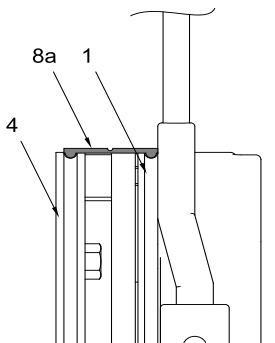

Figure 45 – Brake Seal
- Press the lips of the seal into the grooves into the stator (1) and the mounting flange (4) (see Figure 45).